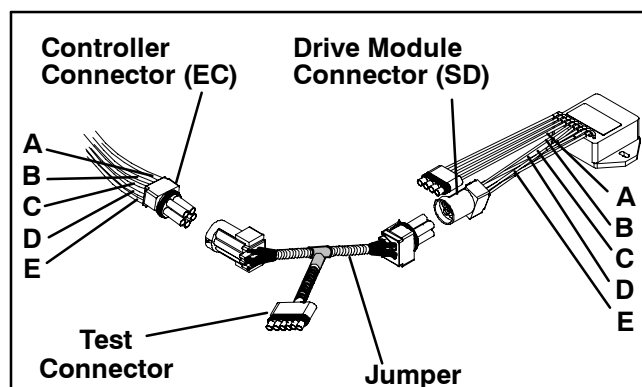

Figure 45. Jumper Assembly
1. Install a jumper assembly (Carrier part number 07-00408-00) to connect the drive module and controller connectors as shown in Figure 45.
- b. Remove SMV powerhead by loosening the 2-1/8 inch diameter nut (see Figure 45) to relieve any pressure and then , sliding the powerhead out.